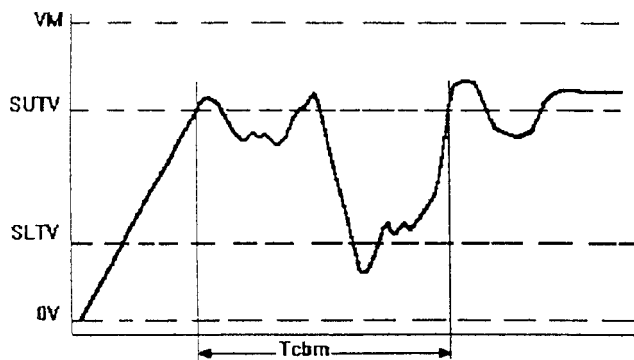

FIG. 2 Contact Bounce on Switch Make
3.1.3 *contact bounce time (make)*,  $T_{CBM}$ —the time period measured from the first instant  $V_M$  is equal to the SUTV until the first instant it again rises above the SUTV after the last instant it falls below the SLTV. If  $V_M$  does not fall below SLTV during the time interval,  $T_{CBM} = 0$ , (see Fig. 2).